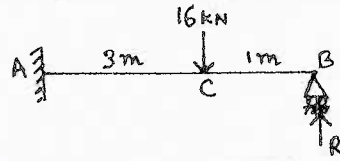

Fig.Q4(a)
- 4 a. Analyze the propped cantilever subjected to the loadings as shown in the Fig.Q4(a), using strain energy method. EI is constant. Calculate " R " and " M_A ".